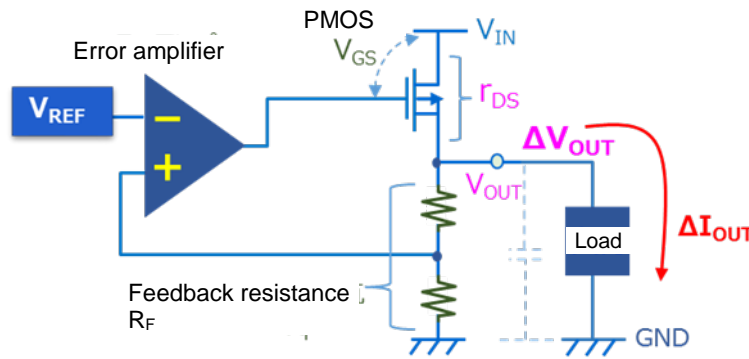
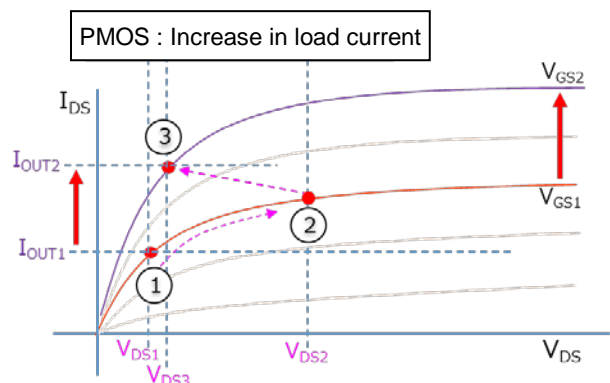

Figure 2.2.1 Simplified diagram of a typical LDO with a PMOS pass device
Figure 2.2.3 V_{DS} - I_{DS} curves of the PMOS pass
- First, let’s consider a sudden increase in load current (see Figure 2.2.1 to Figure 2.2.3).